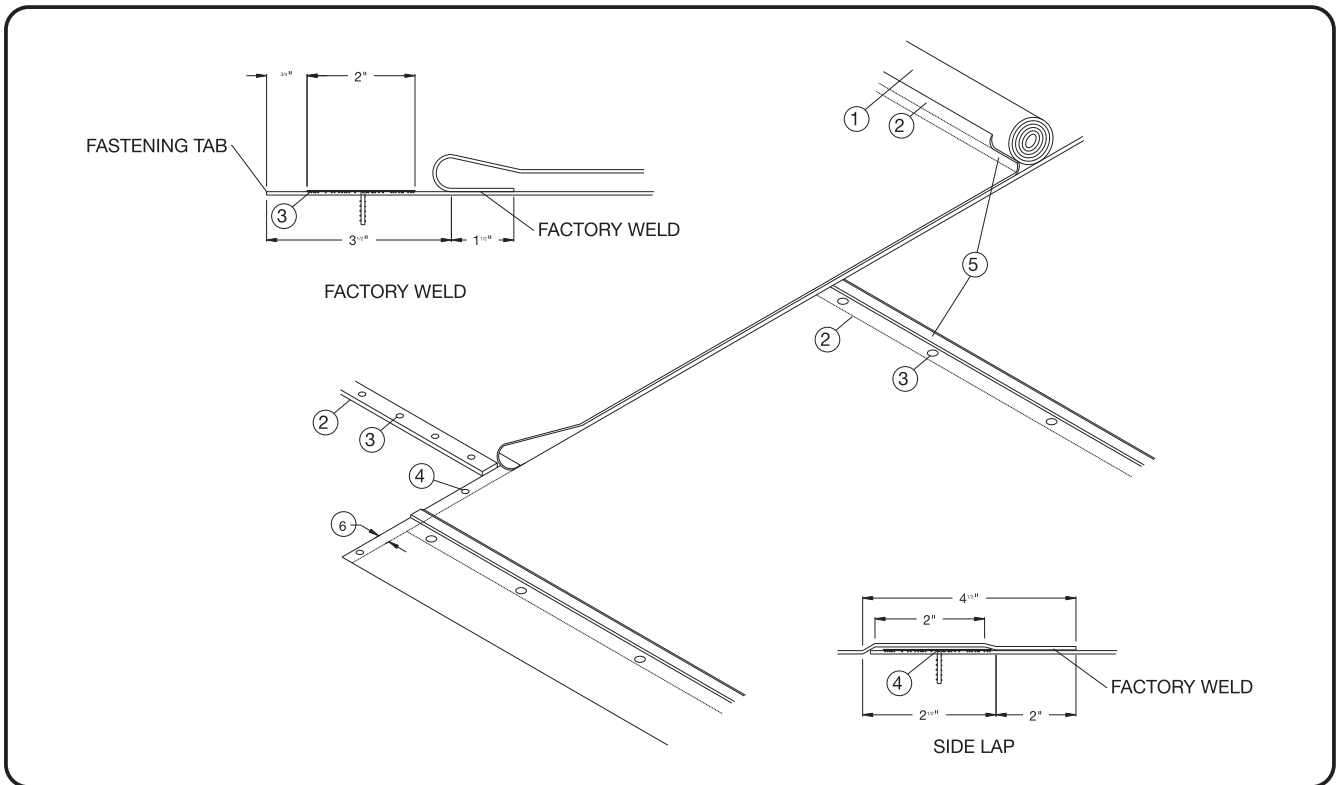

**FIG 10. TYPICAL MEMBRANE COVER INSTALLATION**
17. Now caulk the top edge of the bar with the caulking provided. Your roof should now be completed. See Fig. 10.